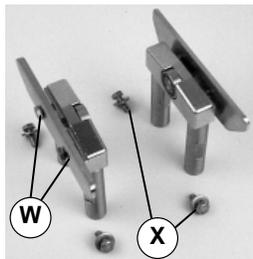

Figure 23
2. Sub-assembly as shown (Figure 23).